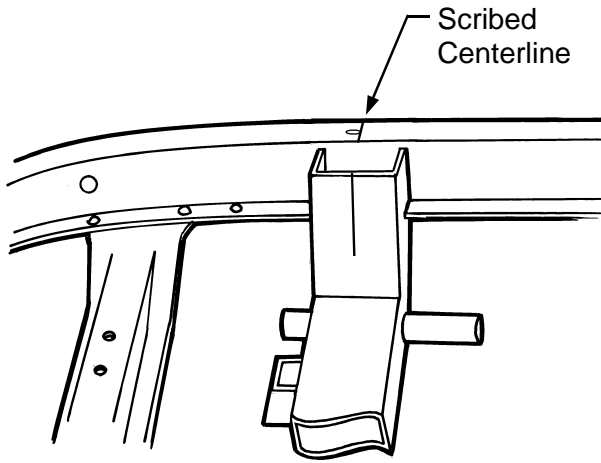

Figure 5
7. Trial fit the new crossmember up into the rails. It should be centered on the marked axle centerline. See Figure 5. If it does not fit, grind the sides of the crossmember until it fits in place. Make sure it is fully seated on the underside of the actual frame lower surface and not the remaining flange of the old front crossmember section you trimmed out. It should be seated flat against the bottom of the frame rails. Clamp in place, double check your measurements, making sure the crossmember is squared to the frame, then weld in place. Weld all around, top, sides and bottom. This crossmember keeps the front frame rails from twisting and flexing, so good strong welds are required